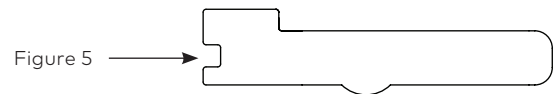

Figure 5
- Insert the spline key fully by tapping into place with a screwdriver using insertion notch (Figure 5).